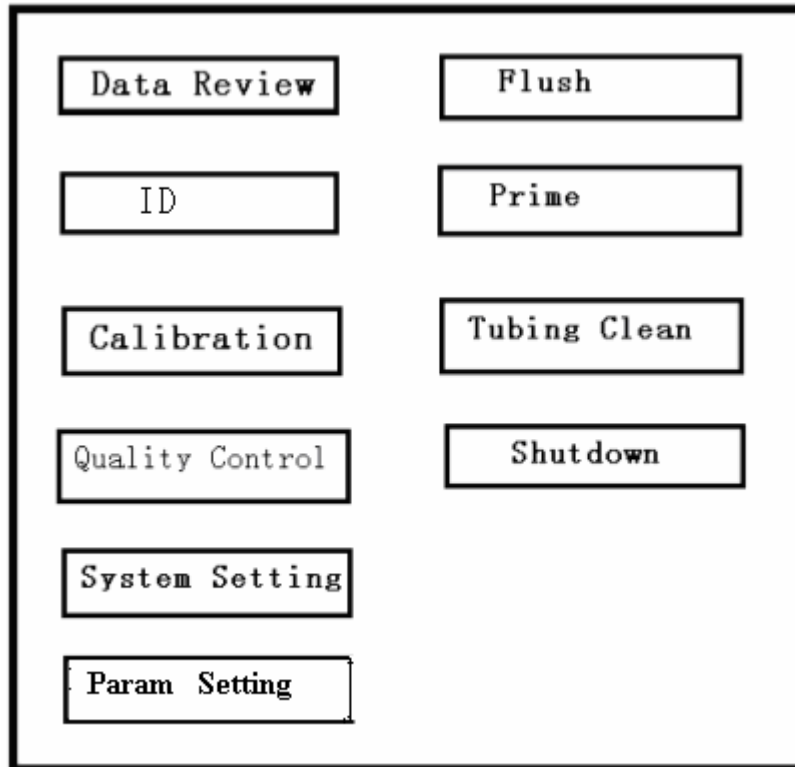

Figure 4-1
At Blood Cell Analyze window, press FUNC into function menu, see Figure 4-1
- a) At the window in Figure 4-1, shift ↑ ↓, select “ID”, press ENTER, window in Figure 4-2 will appear.
At window in Figure 4-1, select “System setting”, press ENTER, System setting window appears, see Figure 4-3.